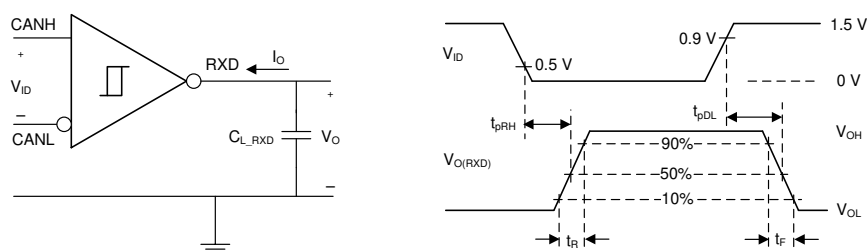
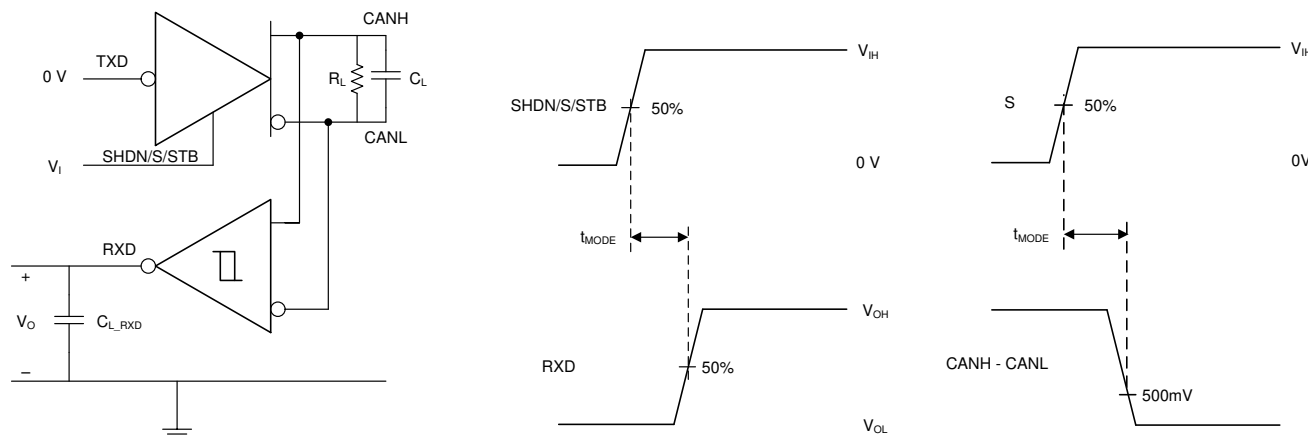

図 6-3. Receiver Test Circuit and Measurement
図 6-4. t_{MODE} Test Circuit and Measurement, from Normal to Shutdown, Standby or Silent Mode
The CAN bus has two logical states during operation: recessive and dominant. See Figure 6-3 and Figure 6-4.
Transceivers with low power Standby Mode have a third bus state where the bus terminals are weakly biased to ground via the high resistance internal resistors of the receiver. See Figure 6-3 and Figure 6-4.
(1) Mirrors bus state: low if CAN bus is dominant, high if CAN bus is recessive.
(2) See Figure 6-3 for bus state.